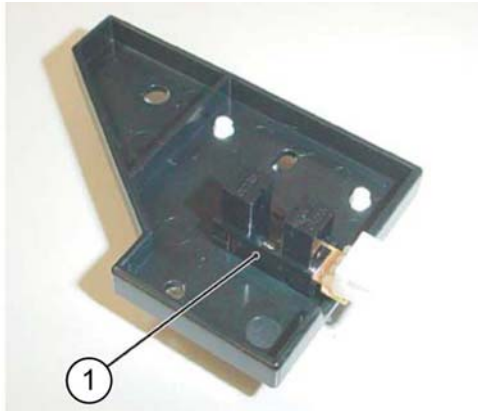

Figure 4 Rear tamper home sensor removal
9. Remove the rear tamper home sensor (1) from the bracket, Figure 4.